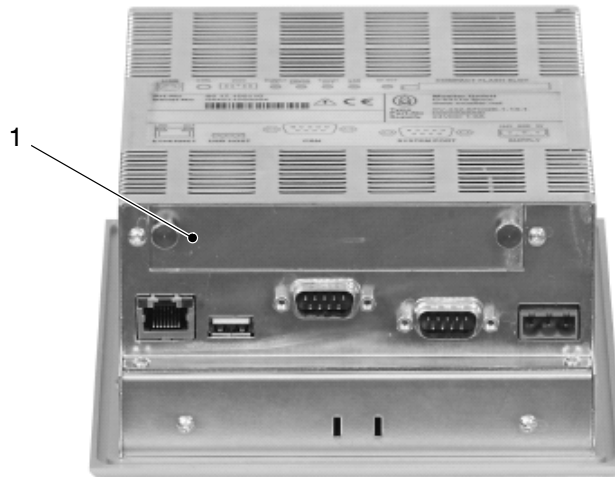

Fig. 7-4
1. Unscrew the cover (1, Fig. 7-4) and place aside for later use, or unscrew and extract the old communication assembly.